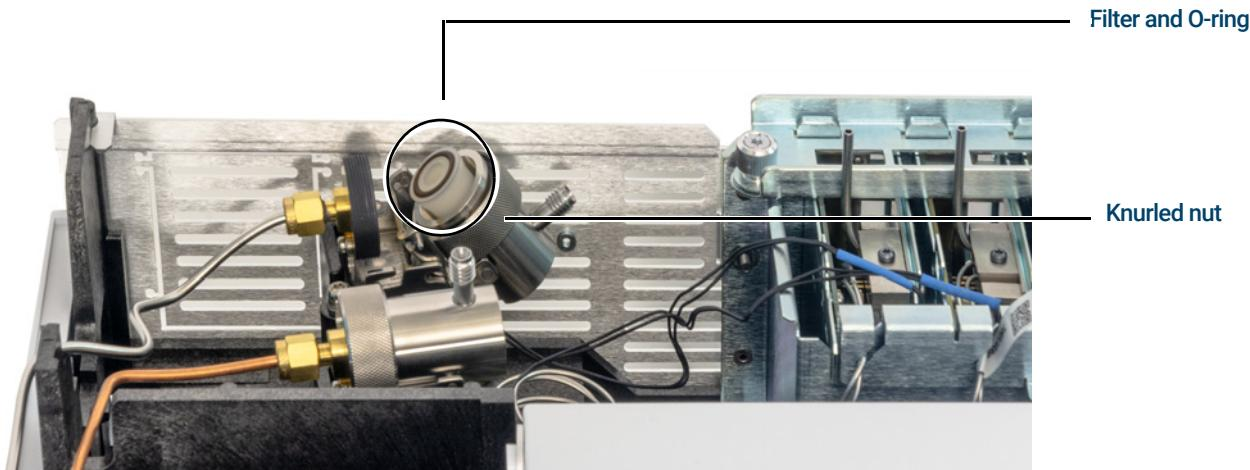

Figure 35. Slide trap assembly to expose the filter
- 5 Slide the trap assembly back from the guided mounting bracket and tilt up to expose the filter as shown in Figure 35.